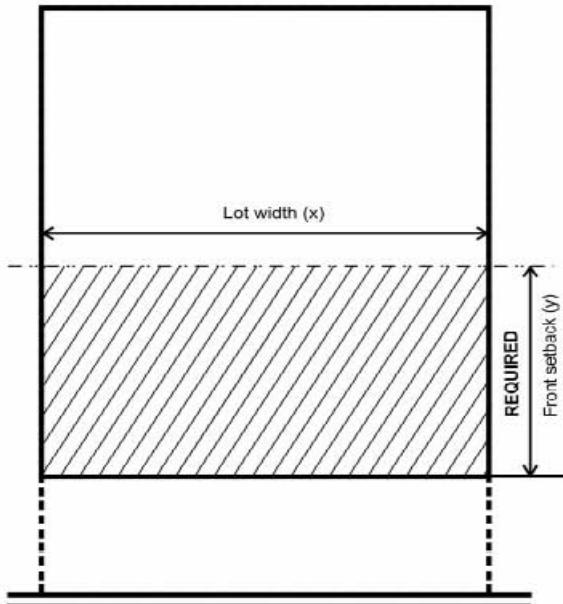

Figure 6
**E. IMPERVIOUS SURFACE RATIO** Impervious surface coverage is measured in square feet and as a percentage of lot area. The maximum impervious surface ratio allowed within the required front yard setback on a standard lot is forty-five (45) percent. The maximum surface ratio allowed within the required front and street side yard setback on corner lots is twenty-five (25) percent. Impervious surface calculations shall include any patios or walkways that are not included on the proposed or revised driveway. (See figures 6 & 7.)